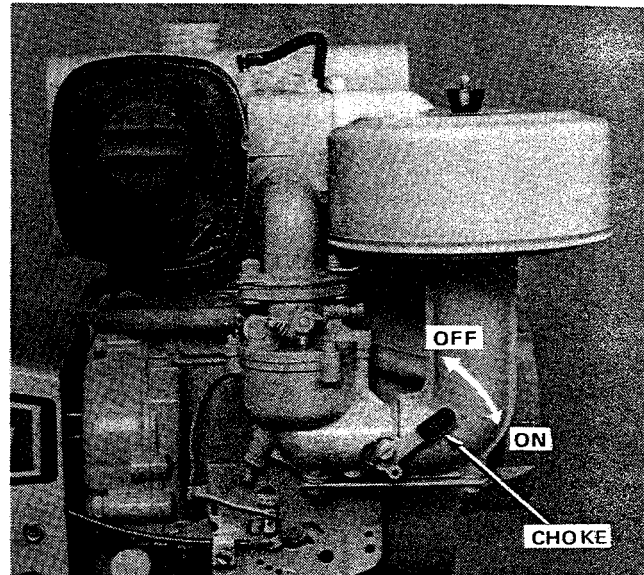

Figure 3. Engine Choke
3. Move the engine choke lever fully forward to the CHOKe position (see figure 3). When engine is warm, it may not be necessary to use the choke.